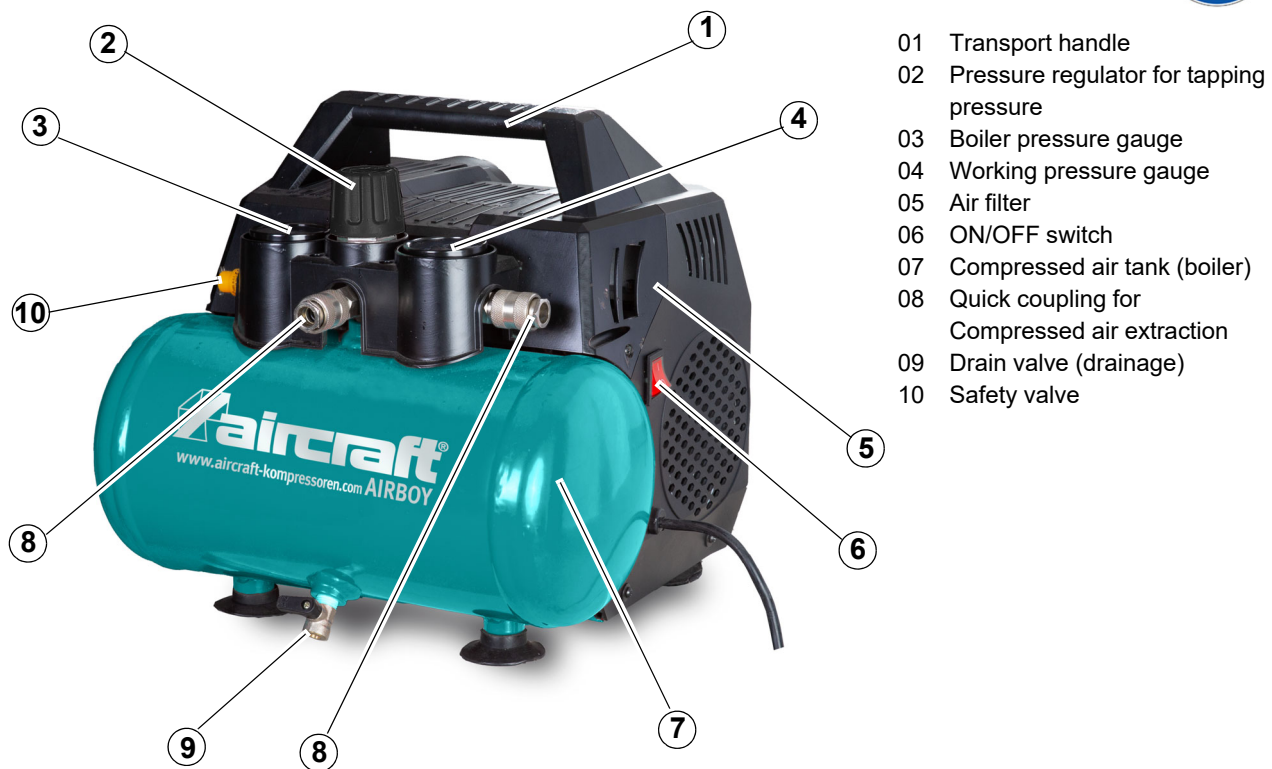

Fig.5-1: Device description AIRBOY 131 OF E
- ➔ To switch on, set the on/off switch (pos. 6, fig. 5-1) to position 1.
- ➔ To switch off, set the on/off switch (pos. 6, fig. 5-1) to position 0.
- Remove the intake filter (pos. 5, fig. 5-1) and replace it (if it is damaged) or clean the filter element. Never operate the compressor without the intake filter!